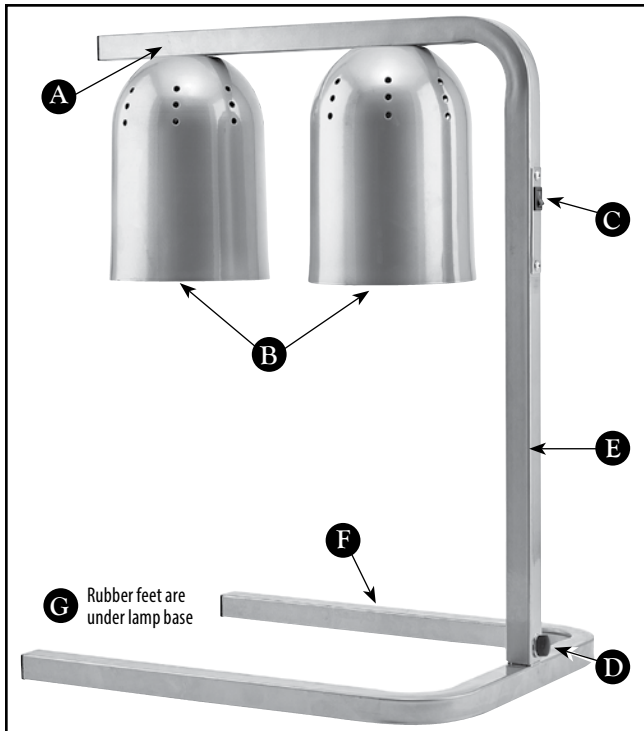

Figure 1. EHL-2C Features
- A LAMP BAR** (Figure 1) Mounting bar for lamp housing.
- B LAMP HOUSING** (Figure 1) Housing for heat lamps
- C POWER ON/OFF SWITCH** (Figure 1) Turns power on/off.
- D LOCKING NUT** (Figure 1) Locks the adjustable main bar in place to keep heat lamps at optimal height.
- E MAIN BAR** (Figure 1) Raises and lowers height of lamp bar.
- F LAMP BASE** (Figure 1) Wide stance for stability. Standard food trays will fit between base.
- G RUBBER FEET** (Figure 1) Prevent slipping of unit.